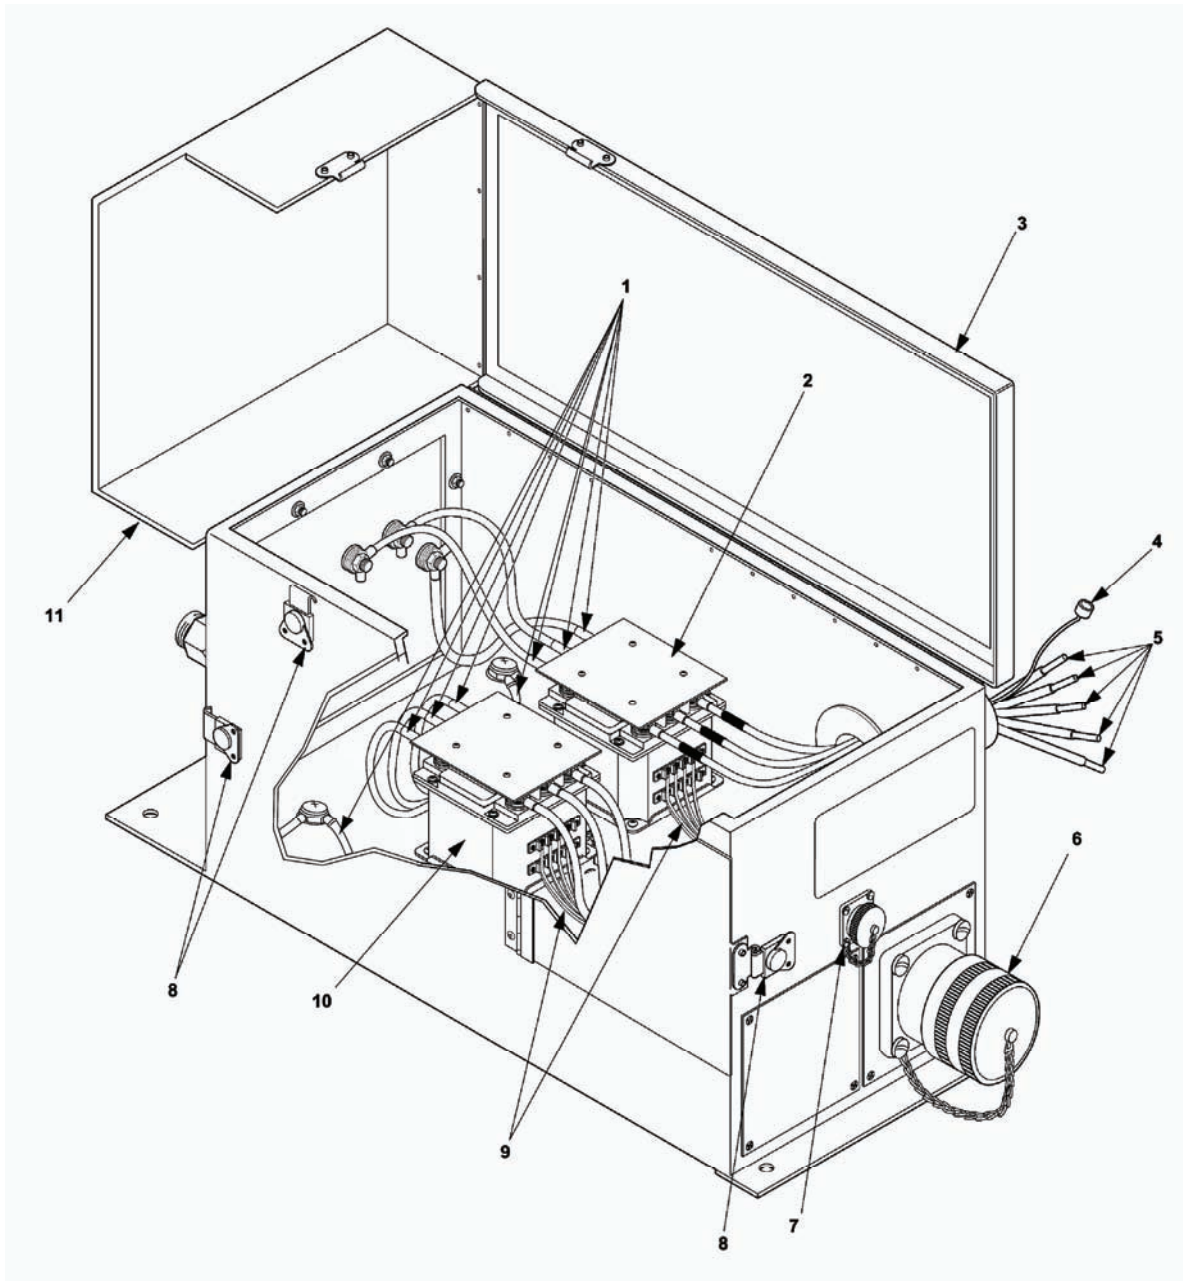

Figure 5-11.2. Switch Box Assembly Test (B&C Models).
1. Release clamping catches (8, figure 5-11.2), on switch box cover (3) and load terminal cover (11). Lift switch box cover (3).
- a. Refer to table 5-9. and check continuity of wiring harness W7 (9, figure 5-11.2).
- a. Using a multimeter, test contactor K1 (10, Figure 5-11.2) as follows:
(6) Measure resistance across terminals X and Y of contactor.
(7) Turn off power source and disconnect lines connected in step a(2).
b. Repeat steps a (1) through (7) for contactor K2 (2, figure 5-11.2).
b. Close the switch box cover (3, figure 5-11.2) and secure clamping catches (8).